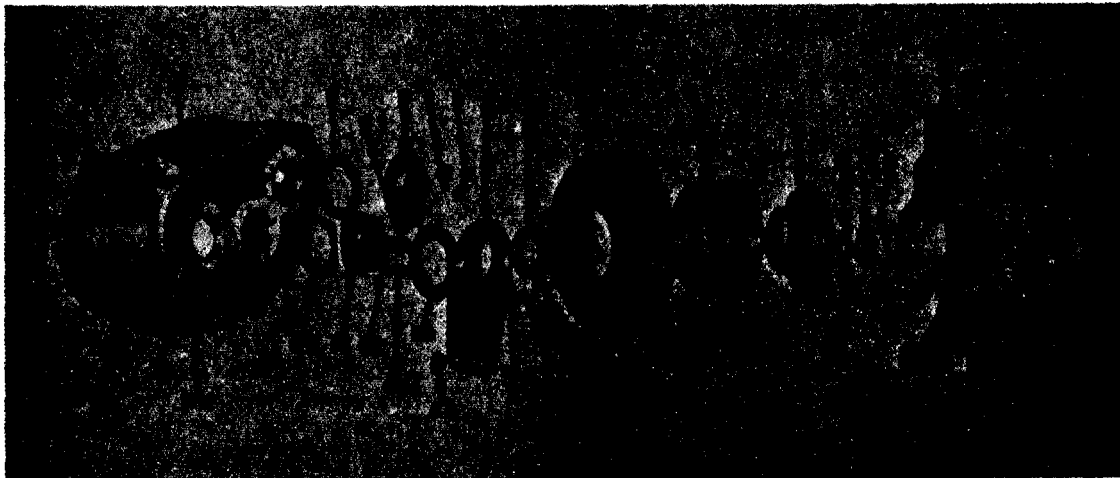

Figure 231. Transfer case, rear covers, and parking brake - exploded view
- (c) Install intermediate shaft rear bearing cover. Position intermediate shaft rear bearing cover (FF, fig. 231) and shims (GG, fig. 231) on case so that oil passages are in alignment. Insert two hex-head bolts (CC, fig. 231), two hex-head bolts (DD, fig. 231), four lockwashers (C, fig. 231), and tighten down with 20 to 25 lb.-ft. torque.
- (d) Install input shaft rear bearing cover. Position input shaft rear bearing cover (D, fig. 231), and new input shaft rear bearing cover gasket (B, fig. 231) on case with care taken to assure alignment of oil passage. Insert six cap screws, lockwashers, and tighten down with 20 to 25 lb.-ft. torque.
- (e) Install rear output shaft bearing cover. Position rear output shaft rear bearing cover (G, fig. 231), and read output shaft rear bearing shims (BB, fig. 231) on case. Aline so that pin in case enters hole in cover. Insert six cap screws, lockwashers, and tighten down with 20 to 25 lb.-ft. torque.
(3) Assemble the case cover.